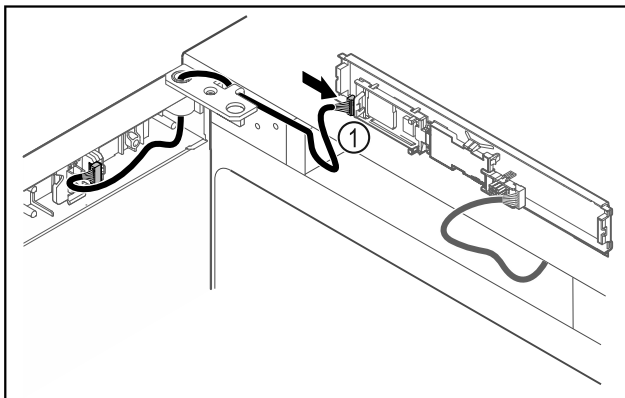

Fig. 43
- ▶ Connect the plug Fig. 43 (1) to the circuit board.